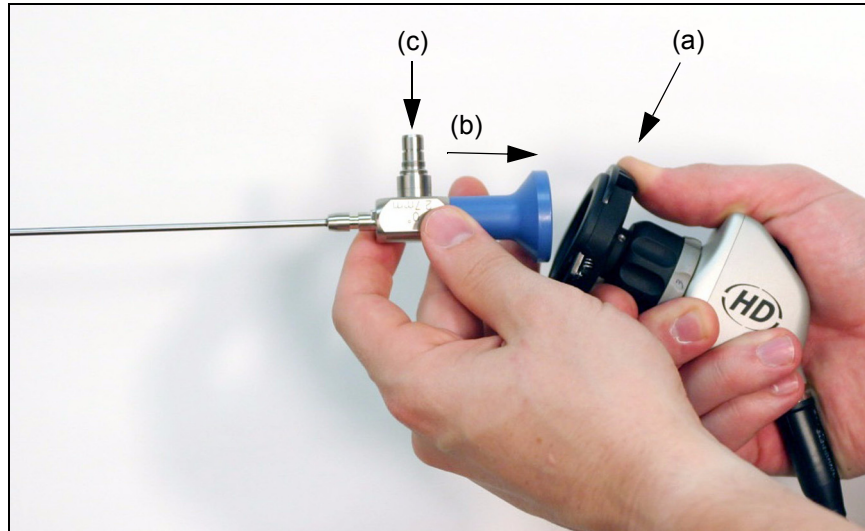

Figure 6: Attaching an endoscope to the camera head
- Push down on the endobody clamp (a) and insert the scope into the scope end of the coupler (b). (See Figure 6.)
3. Attach a light cable from the light source to the light post on the endoscope (c) (see Figure 6).